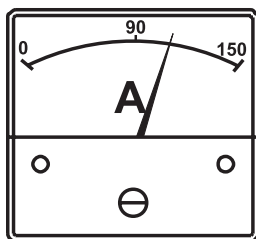

Figure 68. Ammeter (Load)
14. Verify that the generator's ammeter (Figure 68) reads the anticipated amount of current with respect to the load. The ammeter will only display a current reading if a load is in use.